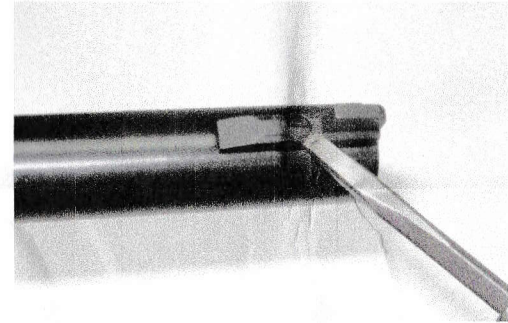

Fig. 4
- 4: Using a proper fitting screwdriver, remove the original front sight. (See Fig. 4) Use the original screw to install the HiViz[®] front sight base. We recommend that you clean and degrease both the screw and the hole and apply threadlocker.